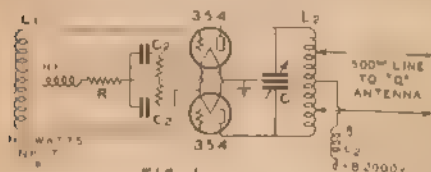

FIG. 1
Thus, some form of oscillator-amplifier transmitter will undoubtedly become standard practice as activity on the higher frequencies increases. In Fig. 1 is shown a simple MOPA transmitter which uses a pair of push-pull 45's as unity-coupled oscillators and a pair of neutralized 210's in push-pull in the power amplifier. The oscillator is designed for maximum stability, while the final amplifier is designed for maximum output. These two characteristics never go together in the same stage. You can have either stability or high output, but rarely both, because entirely different operating conditions are necessary for the two characteristics. The oscillator uses relatively high  $C$  in the tank circuit so that changes in tube capacity and plate resistance will have the least possible effect on the frequency of oscillation. On the other hand, the amplifier stage should have as little tuning capacity as possible in order to avoid losses.
**H**ERETOFORE it has been difficult to obtain stable operation on five meters with the higher-power tubes due to various reasons. Among them are: (1) High inter-electrode capacity in certain types of tubes, (2) The necessity for long leads from grid to plate, (3) The refusal of practically all of the common tubes to amplify at a reasonably low plate voltage on 5 meters. A tube that will not amplify properly will not oscillate without excessive grid losses, (4) A rugged grid and grid lead is essential because of the high radio-frequency grid current that flows at 60 MC, even in the low capacity tubes.
**T**HIS could not be so. It was the answer to the high-power 5-meter problem. Experiments confirmed this belief and exceeded our fondest expectations, especially on the score of plate efficiency, which is usually so hard to obtain at 5 meters. Efficiencies of 35% in oscillators or class C amplifiers have been as high as one could realize in the 'pre-354 era'. We realized a plate efficiency of over 55% when using the conventional TNT oscillator circuit shown in Fig. 1. By substituting about 5 feet of No. 14 wire, as in